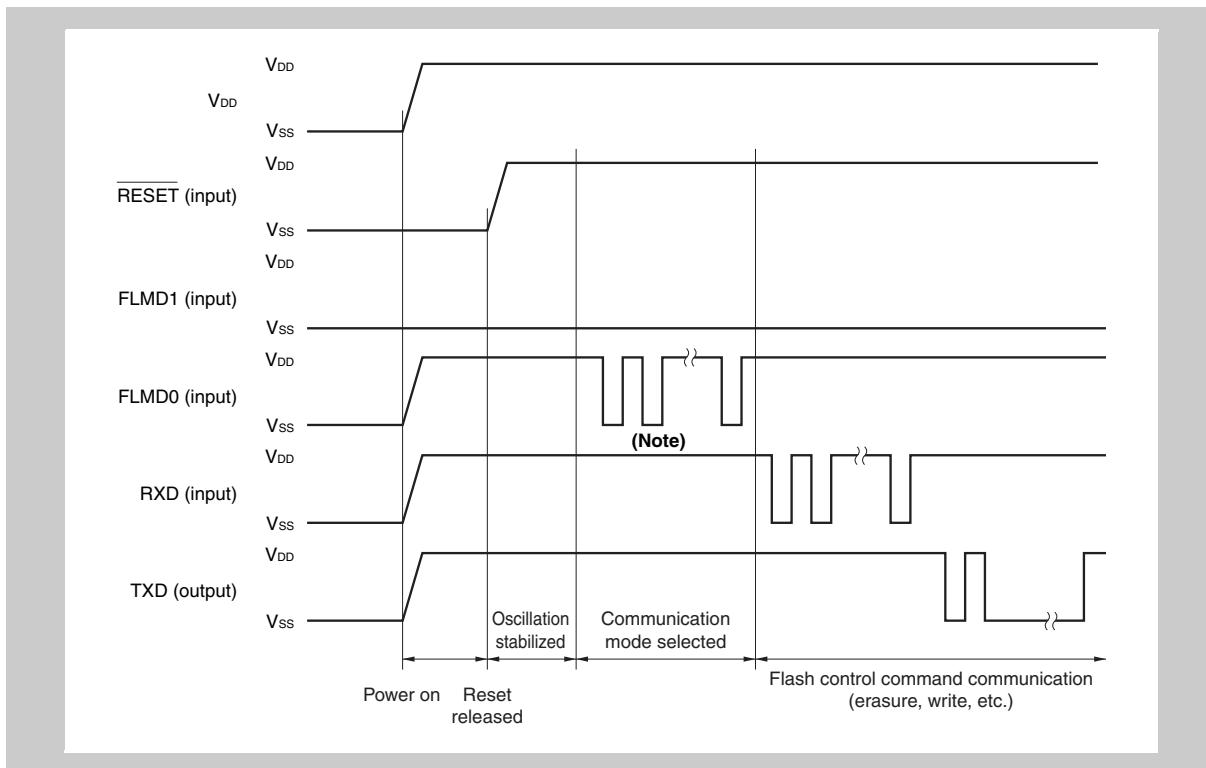

Figure 7-12 Selection of communication mode
*Figure 7-12 on page 325* gives an example how the UART is established for the communication between the flash programmer and the microcontroller.